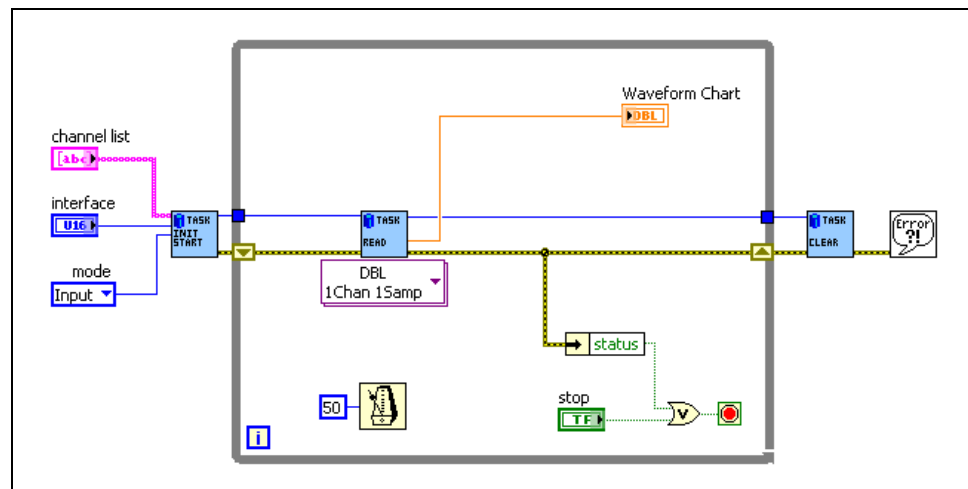

Figure 1-17. Read CAN Channels VI Block Diagram
In the following steps, you complete the block diagram shown in Figure 1-17.
3. Wire the block diagram as shown in Figure 1-17.